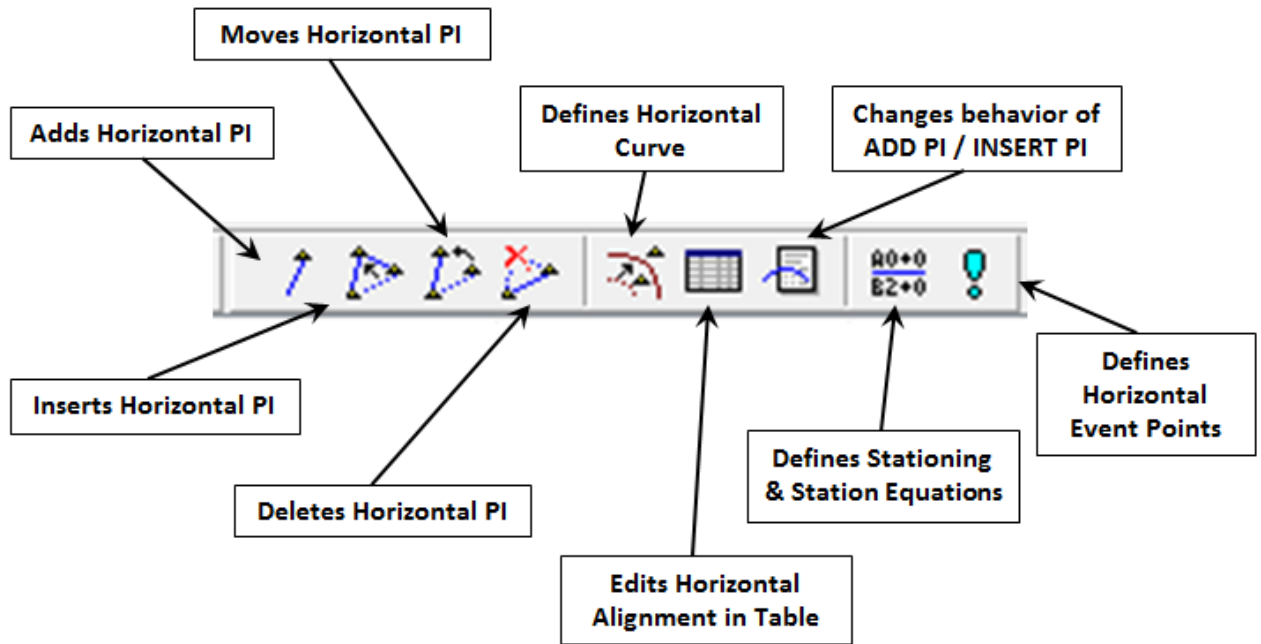

Figure 5-7 InRoads Horizontal Curve Set Toolbar
- A. Click on **Tools > Customize**. On the Toolbars Tab, toggle to the **Horizontal Curve Set, Vertical Curve Set and Locks**. Click on **Close** and dock them in a logical place on the InRoads Dialog box. Figure 5-7 shows the different horizontal design tools available on the toolbar.